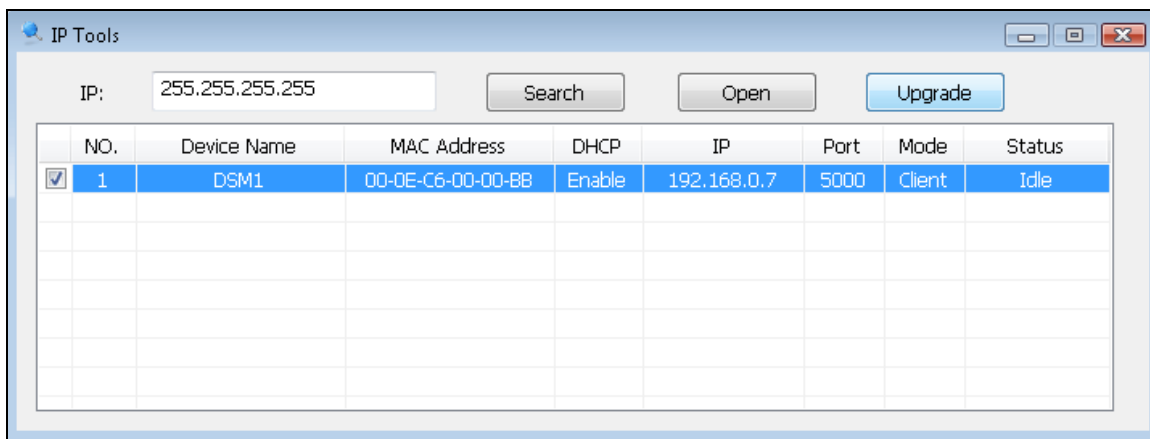

Figure 32
3. Launch the IP Tools application as referenced in Section 5.7, and locate the ObserverIP on your network. Reference Figure 32. Select the Upgrade button to begin the firmware upgrade. As shown in this figure, the IP address of the ObserverIP is 192.168.0.7. Make a note of your IP address (your results will vary).